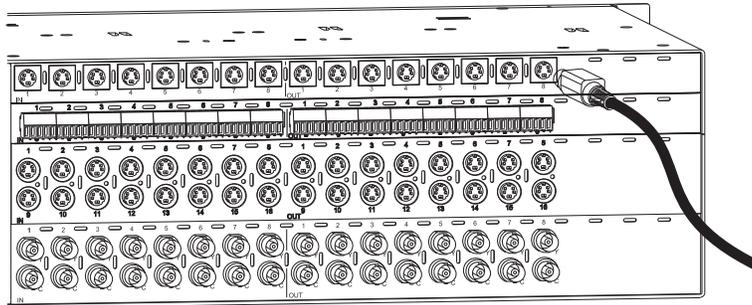

FIG. 23 Fasten the cable onto the connector
1. Fasten the cables onto the input or output S-Video connectors (FIG. 23).